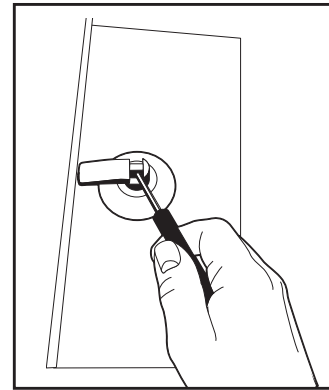

Figure 5a
3. Insert the blade of a small screwdriver under the lip of the retaining wedge and pry the wedge out. See Figure 5a.